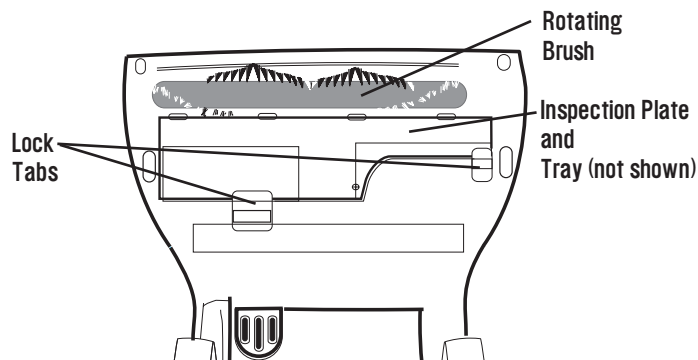

Figure 17
3. Turn the Vacuum Cleaner to rest the Base on its back. (See Figure 17.)